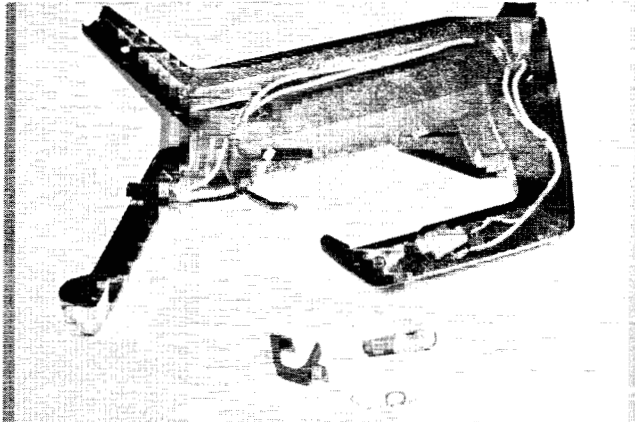

Figure 5.41f
- H. Replace the wiring harness (fig. 5.41f).